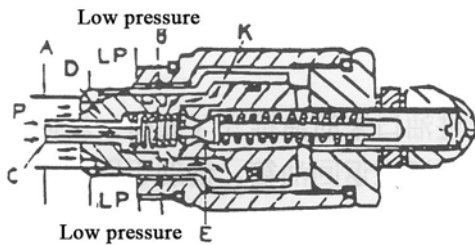

Fig 7.6
- (1) Master relief valve is mounted between the high pressure joint (HP) and low pressure way (LP) of cylinder. Therefore, the valve core of single-way valve and valve core D of master relief valve shall firmly fall in the valve holder (see Fig 7.6).